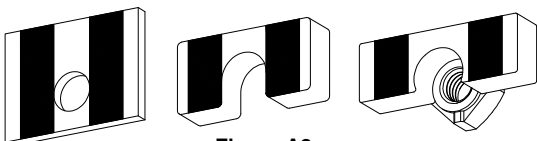

Figure A3
- **1/2" U-Shaped Spacer, Offset Rectangle Washer and Threaded Spacer Block.** Apply tape to washers as needed when they are mounted against the bed, see Figure A3 for reference.